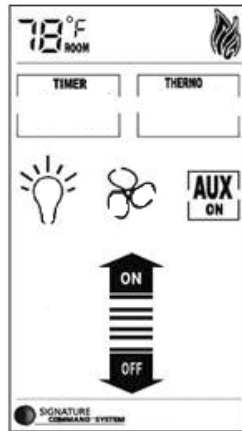

Figure 5.6
- During the 10 seconds, press the OFF button on the transmitter to learn. Another two beeps will be given to confirm a successful learning. Figure 5.6
Manual Mode (Figure 5.6)